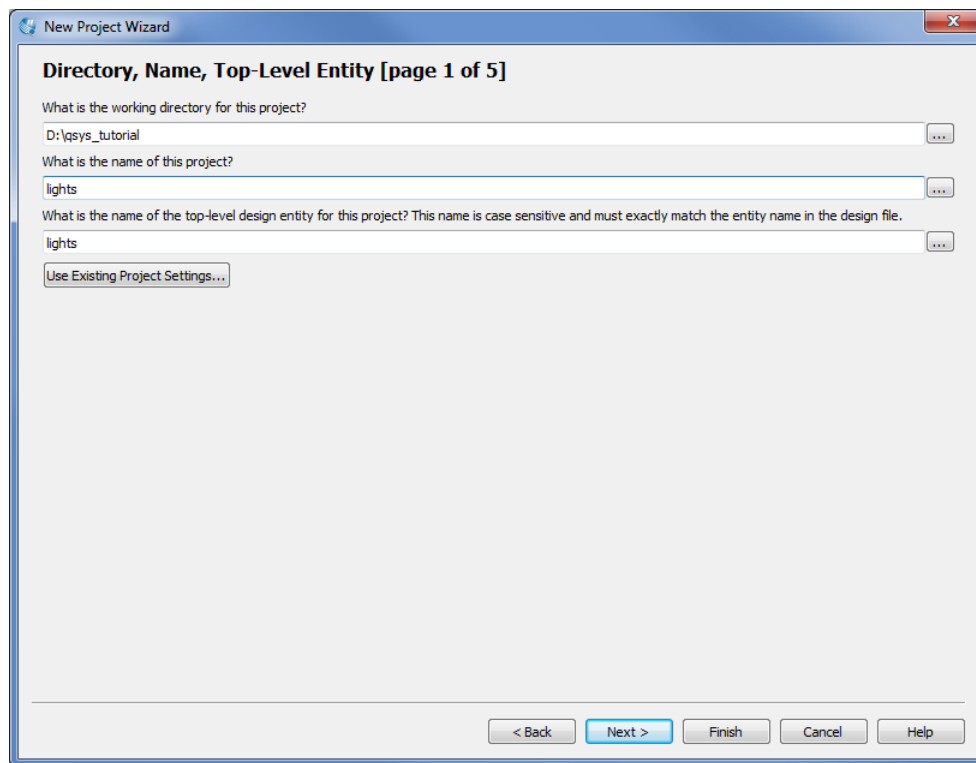

Figure 3. Create a new project.
1. Create a new Quartus II project for your system. As shown in Figure 3, we stored our project in a directory called *qsys\_tutorial*, and we assigned the name *lights* to both the project and its top-level design entity. You can choose a different directory or project name. Step through the screen for adding design files to the project; we will add the required files later in the tutorial. In your project, choose the FPGA device used on your DE-series board. A list of FPGA devices on the DE-series boards is given in Table 1.